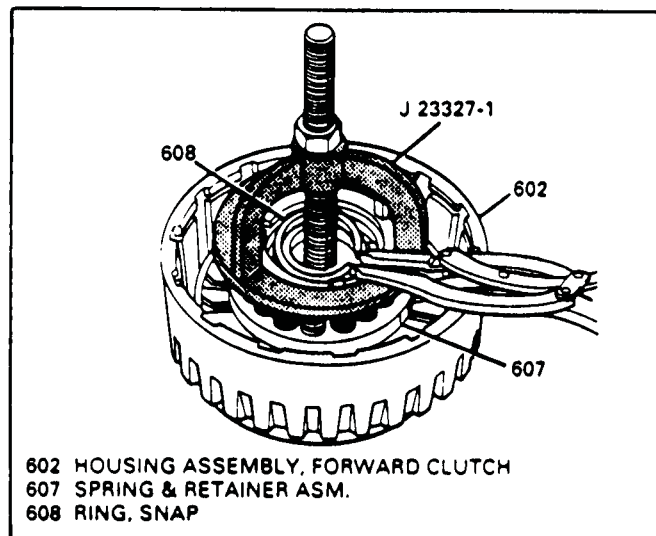

Figure 83
16. Compress the return spring assembly and install the snap ring as shown in Figure 83.